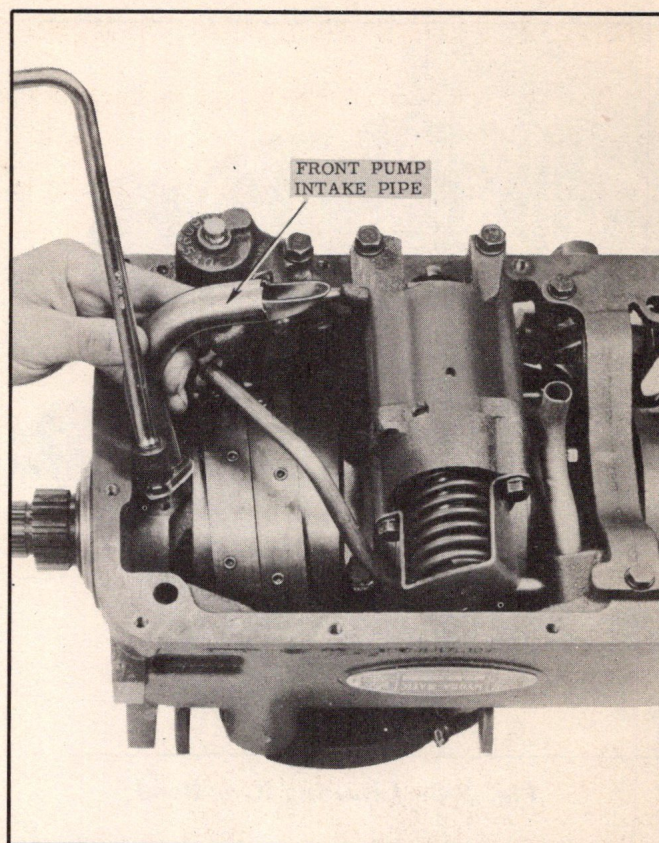

Fig. 306—Installing Front Pump Intake Pipe
9. Install front pump intake pipe to front pump, using a new gasket and new attaching bolt locks (Fig. 306).